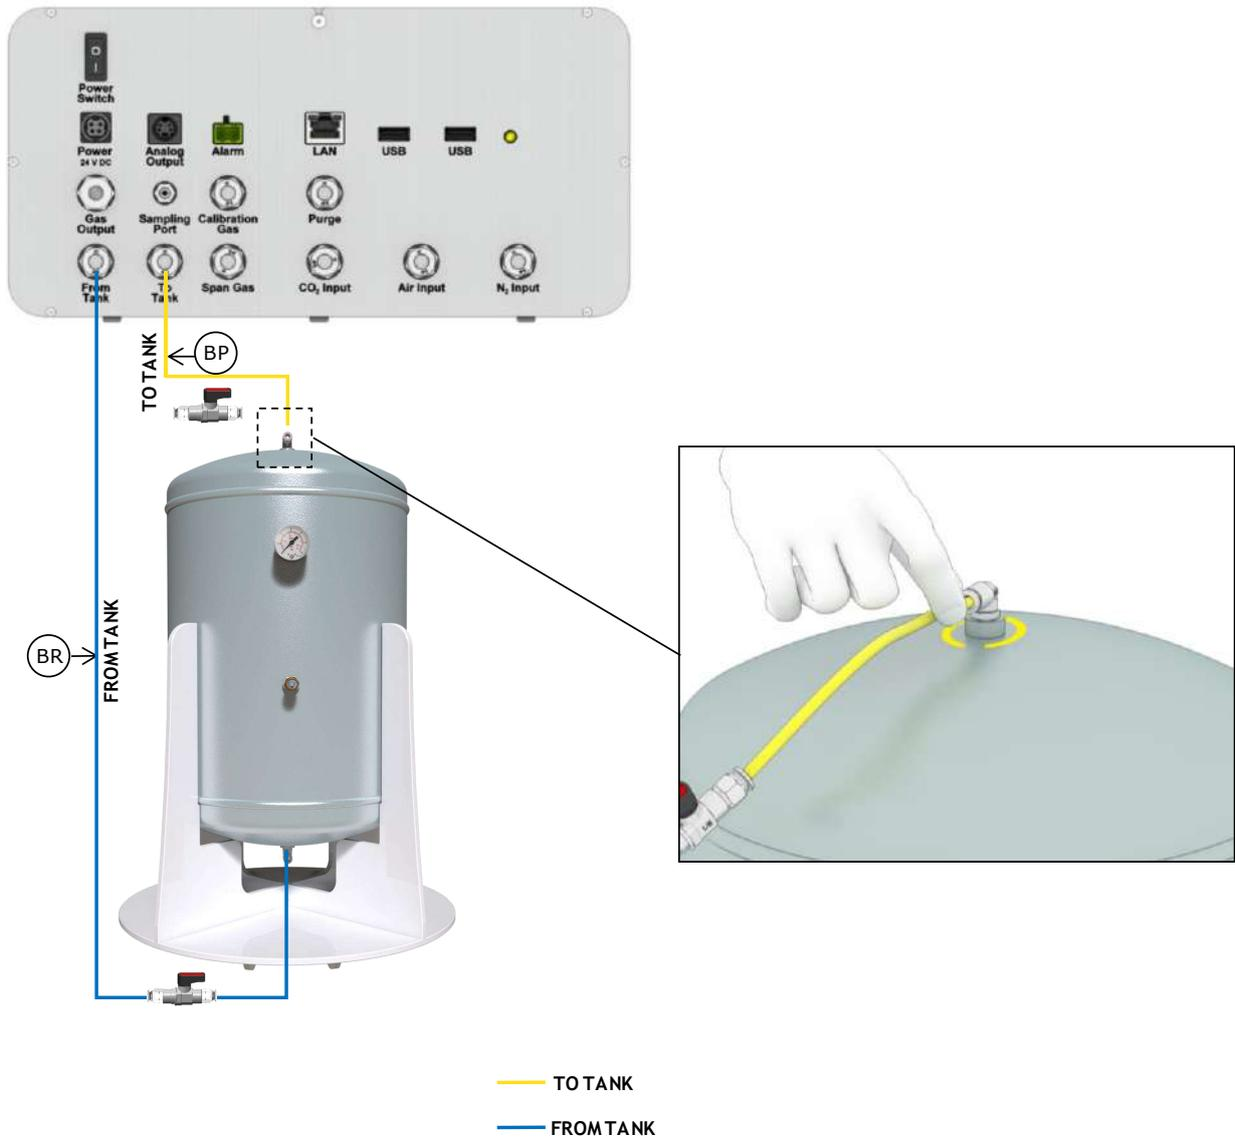

Figure 15. Tank connection
5. Connect the pressurized tank to the Tri-Gas-Mixer with the two polyurethane tubing, TUBE BR and TUBE BP, as illustrated in Figure 15